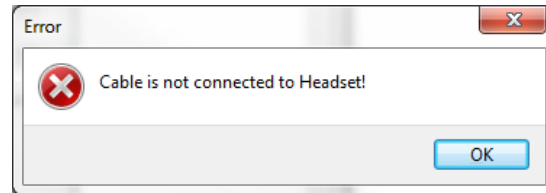

Figure 21 – Error message displayed when headset is not connected to PC.
- At this step, if the headset is not connected to the PC, the message in Figure 21 will appear. Check the fast USB cable.